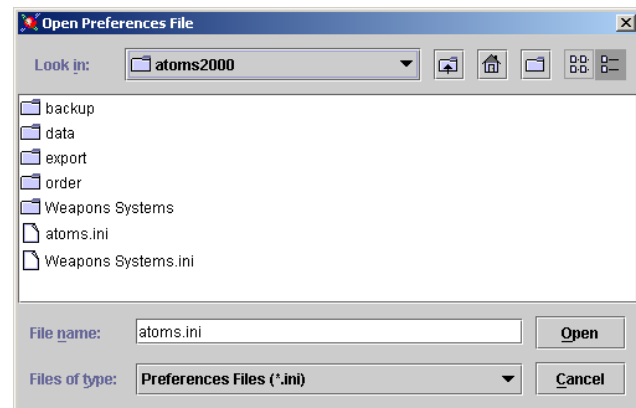

Figure 4-36. Open TODO Preferences
- 2) In the white box where all the files and folders are listed, select the *ini* file for the database desired. If the *ini* file for the database desired is not listed, use the Look in: box to find and select it (Figure 4-36).